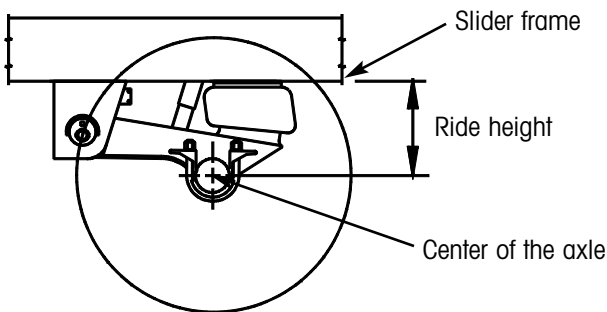

Figure 6. Description of ride height
1. To determine the ride height and set it to the designed ride height (Figure 6) as shown on the suspension data plate and the suspension assembly drawing, read *L459 Checking Trailer Ride Height*.